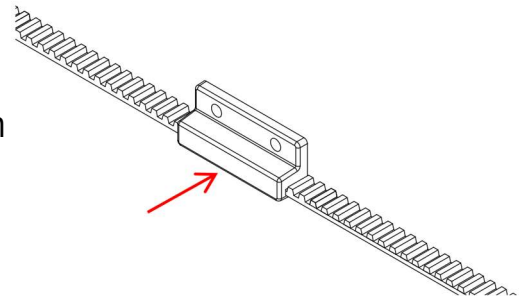

Figure 33: Insert the two ends of the belt into the bottom bracket.
3. Keep two ends of the belt as close as possible to each other and insert them into the bottom bracket (Figure 33).